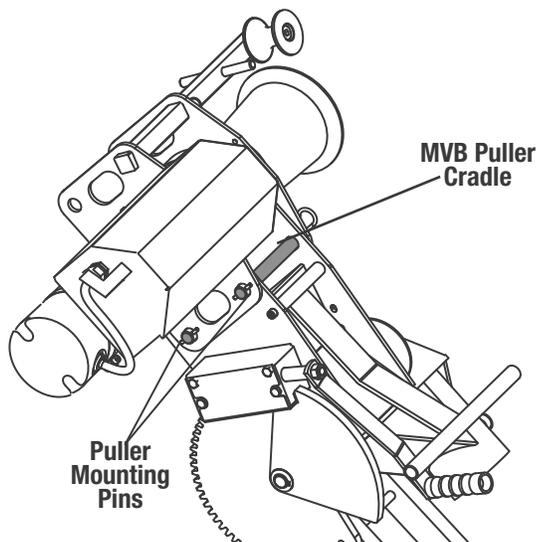

Figure 10: Mounting Puller to MVB
6. Line up the mounting plate holes and insert the Puller Mounting Pins. Secure both pins with Puller Mounting Hitch Clips. (Fig.10)